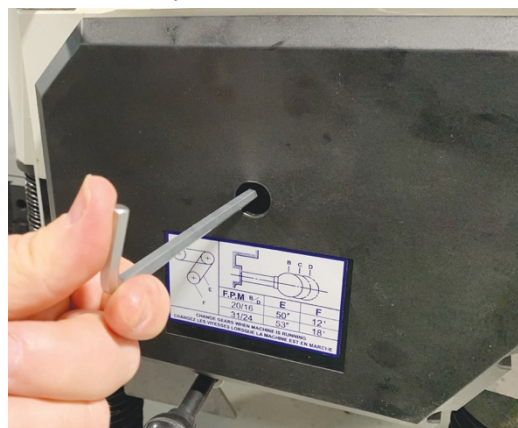

Figure 27
4. Using a 6mm hex wrench, remove gearbox cover mounting screw located in the center of cover (see Figure 27). With this screw removed, adjust the cover to allow the right-side safety plate to swing down freely. Remove the cover.